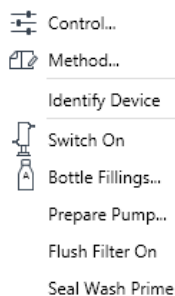

Figure 6 Context Menu
- Change the seal wash solvent and trigger the Seal Wash Prime function from the context menu (see Figure 6 on page 10).